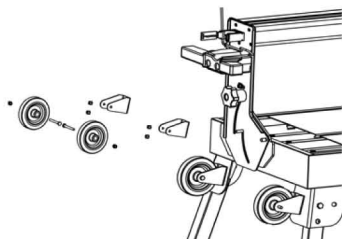
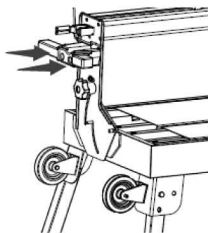
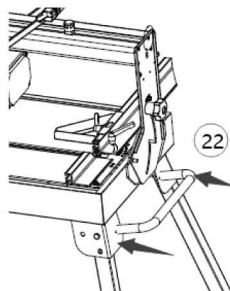

Fig.3
Fig.4
Fig.5
•Assemble the transport aids (Fig.3&Fig.4&Fig.5)
1. Assemble the transport wheel as shown in Fig.3. The screws for assembly are pre-fixed onto the wheels. Please remove the screws to assemble..
2. Assemble the parking foot as shown in Fig.4
3. Assemble the transport handle as shown in Fig.5